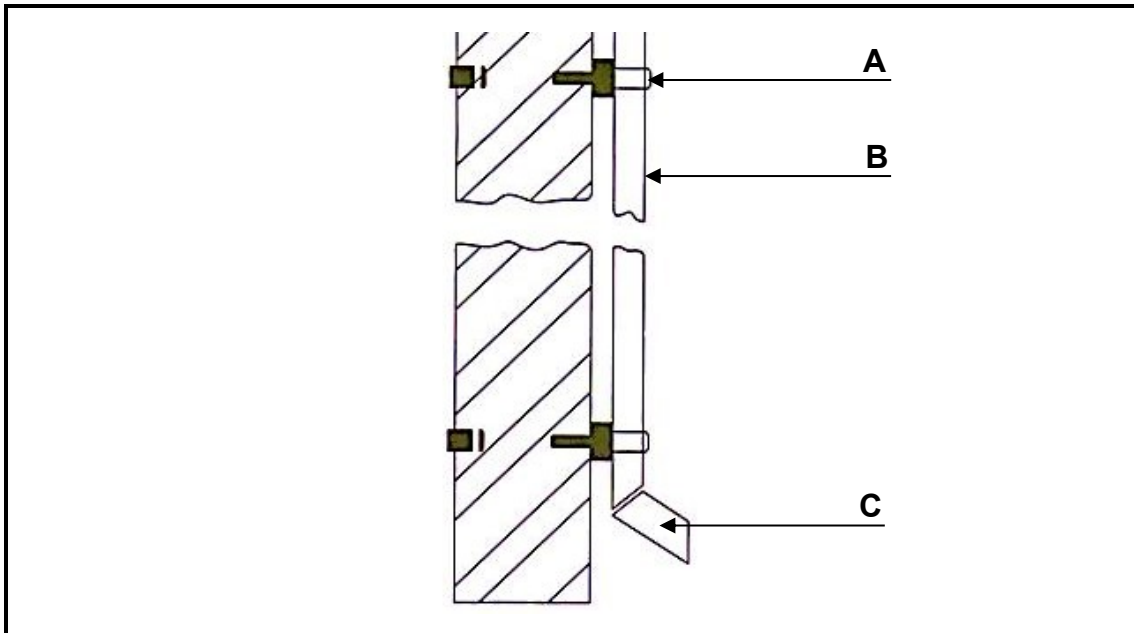

FIGURE 6.2
- 6.2 Name the parts **A** to **C** of the gutter system in FIGURE 6.2.